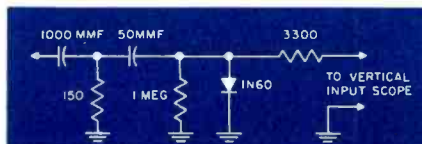

Fig. 6. IF Detector Ckt.
- A detector circuit (Fig. 6) is required to couple the scope to the output test points in alignment steps 1 and 2. The detector in the receiver functions for steps 3 and 4.